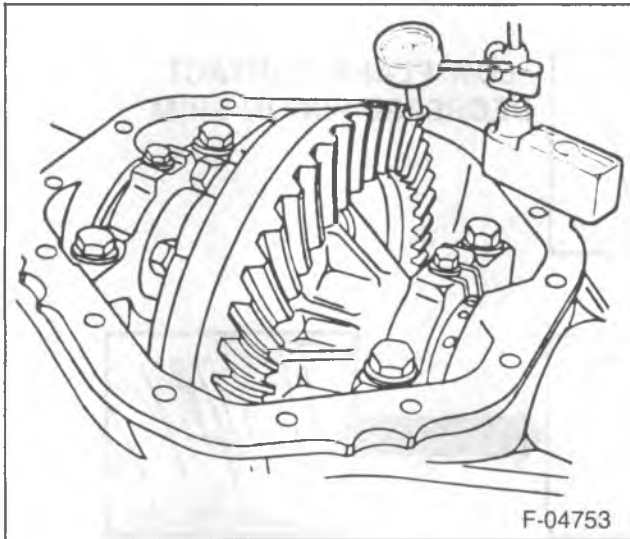

Figure 19—Measuring Gear Set Backlash
1. Install a dial indicator to the case using a magnetic base (figure 19).